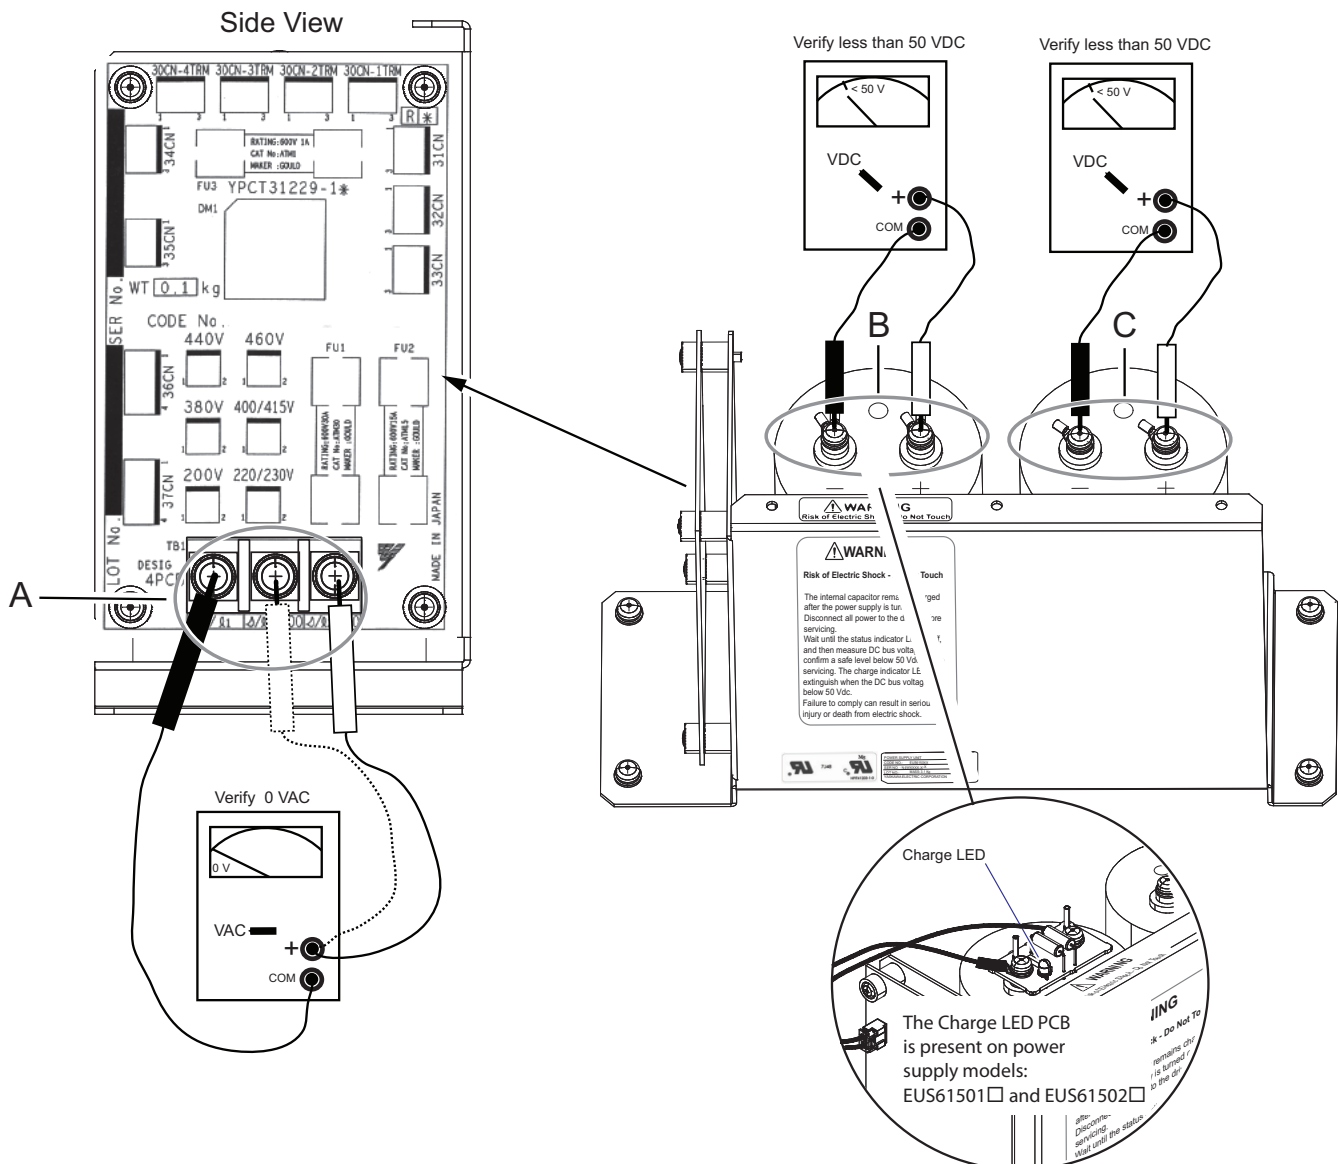

Figure 4 Verifying Safe Voltages
- **DISCHARGE PROCEDURE 1:** Wait 10 minutes after all power is turned off. Check for hazardous voltages with a calibrated multimeter according to Figure 4. If voltage is **less than 50 Vdc on bus capacitors and 0 Vac on 4PCB TB1**, the unit is safe from a shock hazard.
2. DISCHARGE PROCEDURE 1: Verify safe voltage levels: After waiting for at least 10 minutes, using protective equipment recommended in Table 3 and a calibrated multimeter, check to ensure voltages are reduced to less than **50 Vdc on bus capacitors** and **0 Vac on 4PCB TB1**. Refer to Figure 4 for test points on the Power Supply Unit.
2.b. Check Test Point (A) on TB1 between r/11 and s200 for **0 Vac**, and between r/11 and s400 for **0 Vac**. See Figure 4. Then proceed to **Step 2.c**.
2.c. Check Test Point (B) and then (C) on Power Supply Unit capacitors between (+) and (-) screw terminals respectively for less than **50 Vdc**. See Figure 4.
- 6.c.** Using a calibrated multimeter, recheck for hazardous voltages. Refer to **Figure 4**. If voltages are at a safe level less than **50 Vdc on bus capacitors and and 0 Vac on 4PCB TB1** then the Power Supply Unit can be safely removed according to **STEP 3**.